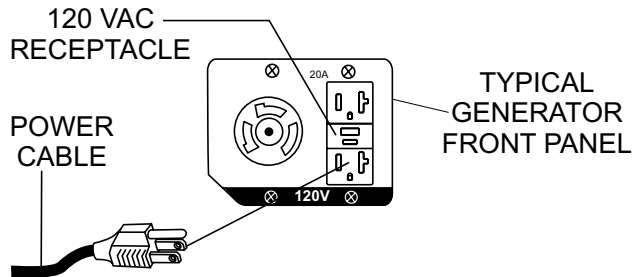

**Figure 13. Raising The Mast**
6. Tighten lower T-handle (Figure 13) securely and raise third mast to desired height.